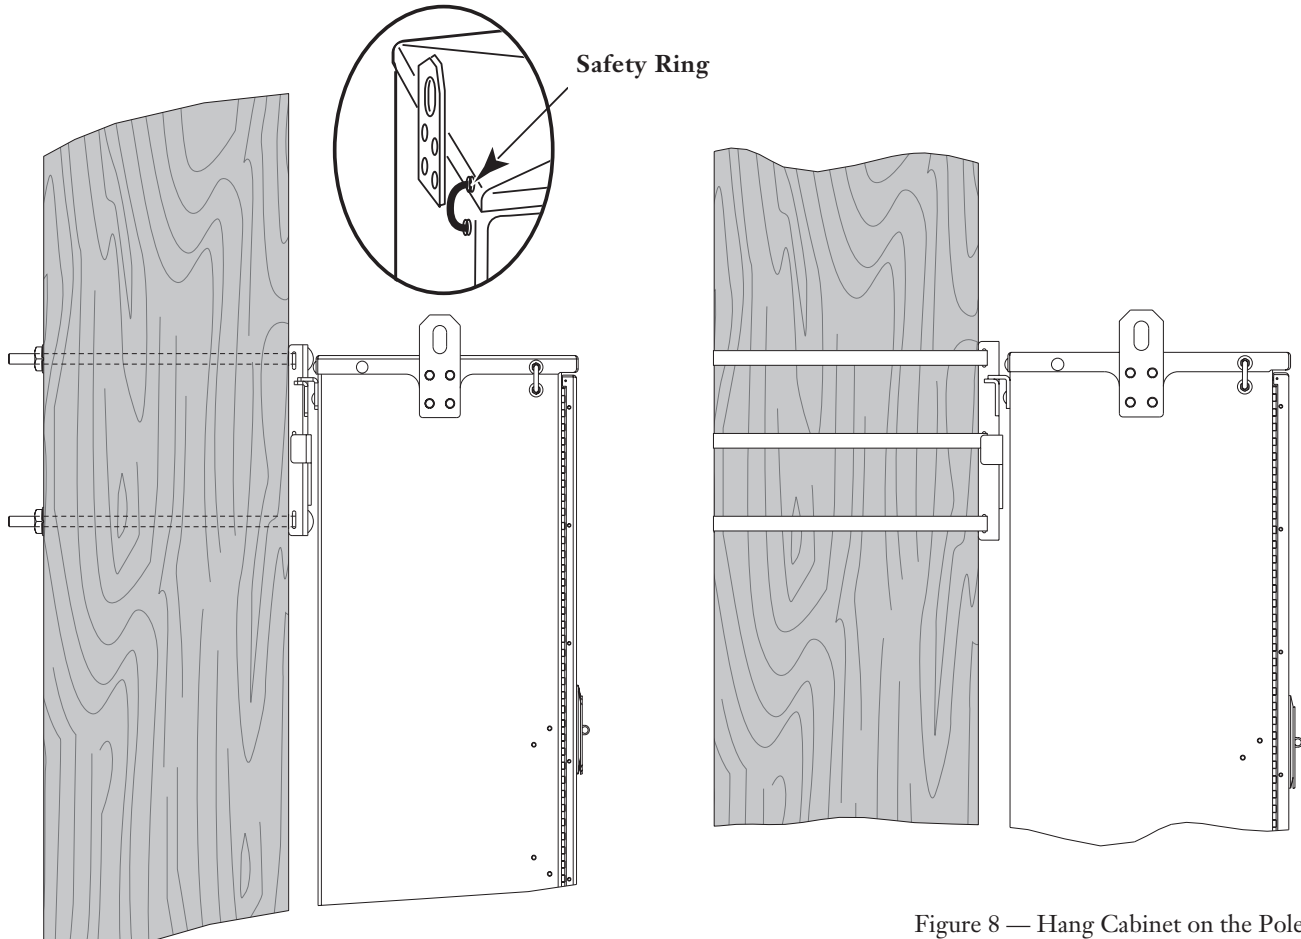

Figure 8 — Hang Cabinet on the Pole
Step 3 Use a crane or hoist to lift the cabinet into position next to the pole. Hang the cabinet on the pole (Figure 8). Observe all standard safety practices to avoid personal injury or damage to the cabinet.